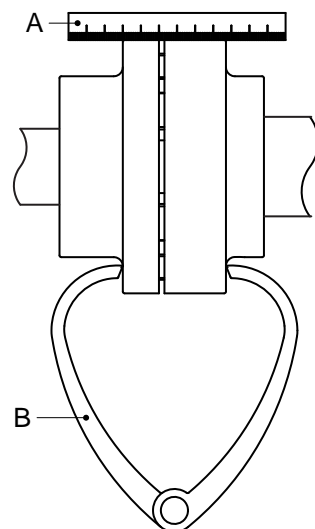

Figure 4: *Aligning the coupling by means of a ruler and a pair of outside calipers.*
- 1 Place a ruler (A) on the coupling. Place or remove as many copper shims as is necessary to bring the electric motor to the correct height so that the straight edge touches both coupling halves over the entire length, see figure 4.
- 3 Check the alignment once again using a pair of external callipers (B) at 2 diametrical opposite points on the sides of the coupling halves, see figure 4.